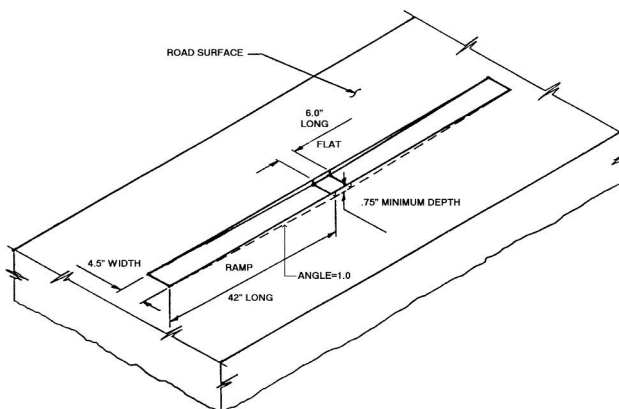

Figure 2. Two Way Marker Application
- **Groove Depth:** Tapered to a depth of 0.75 in (1.9 cm) minimum. Typically, the range of depth for the groove is 0.75 in. to 0.9 in. (1.9 cm to 2.3 cm). Ensure the height of the marker and the adhesive is NOT taller than the depth of the groove. The slope of the groove should be 1.0 degree and the length of the ramp to the application surface should be 42 in. (1.1 m). (See Figures 2 through 5.)